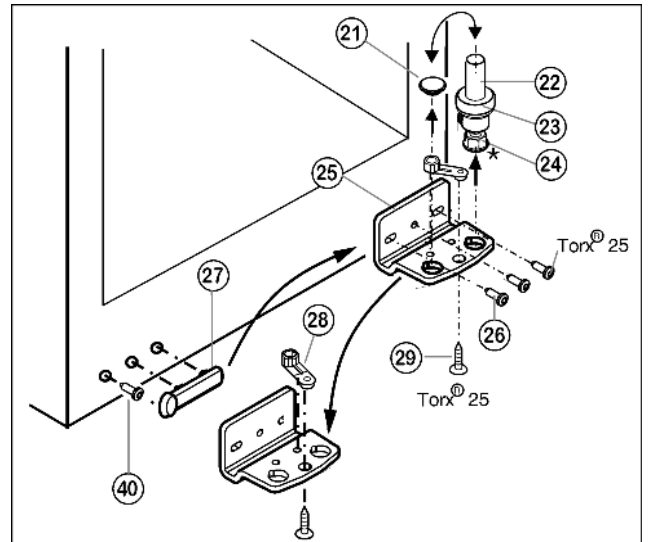

Fig. 5
- ▶ Lift out the bearing pin Fig. 5 (22) together with washer Fig. 5 (23) and adjustable-height foot* Fig. 5 (24).
- ▶ Lift off the stopper Fig. 5 (21).
- ▶ Unscrew Fig. 5 (26) the turn hinge Fig. 5 (25).
- ▶ Unscrew Fig. 5 (29) the bearing element Fig. 5 (28), transfer it to the opposite location hole of the turn hinge and screw it firmly into place.
- ▶ Carefully lift off the cover on the handle side Fig. 5 (27), undo the screw Fig. 5 (40) and transfer both to the opposite side.
- ▶ Screw the turn hinge Fig. 5 (25) firmly into place on the new hinge side, possibly using a cordless screwdriver (with 4 Nm).
- ▶ Re-insert the stopper Fig. 5 (21) into the other hole.
- ▶ Re-insert the bearing pin Fig. 5 (22) together with the washer and adjustable-height foot*. In so doing, pay attention that the locating lug points backwards
- ▶ Lift the stopper (33) out of the door bearing bush and transfer it.
- ▶ Dismantle the door handle (32), stoppers (33) and pressure plates* (34) and transfer to the opposite side.
- ▶ Place the door from above onto the lower bearing pin Fig. 5 (22).
- ▶ Insert the upper turn hinge (12) in the door on the new hinge side.
- ▶ Screw the upper turn hinge (12) **firmly** into place (**with 4 Nm**) (2x Torx® 25) (13). Possibly make preliminary holes with a bradawl or use a cordless screwdriver.
- ▶ Snap the cover (10) and cover (11) into place at the opposite side.
- ▶ Align the door to the appliance housing by way of the two oblong holes in the bottom turn hinge Fig. 5 (25). To do so, unscrew the middle screw.